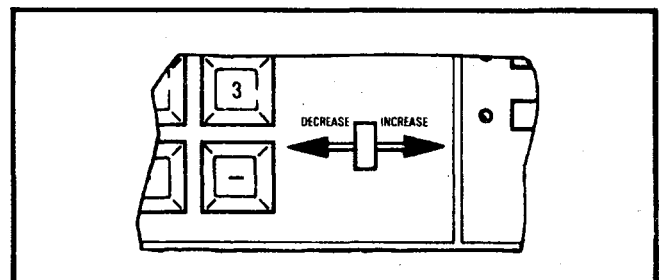

Figure 3-6. INCREASE/DECREASE Lever
- c. INCREASE/DECREASE Lever (Figure 3-6). When enabled by a parameter pushbutton (F1, SWEEP TIME, LEVEL, etc.), this lever may be used to increase or decrease the parameter's value. The length of lever travel, either right or left, determines the rate at which the parameter's value increases or decreases. To increase or decrease the parameter's value in one-increment steps, "tap" the switch in the direction of desired change. When the lever is "tapped," a frequency parameter will change in 1 MHz increments. An RF level parameter will